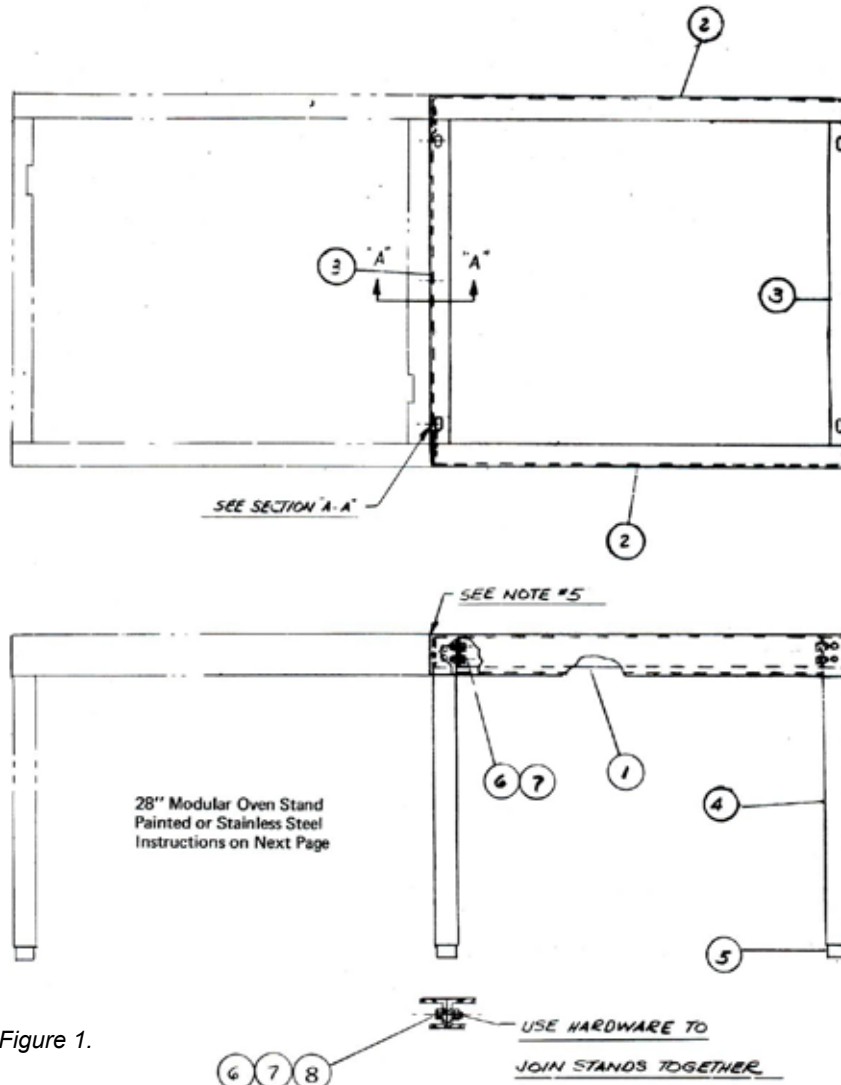
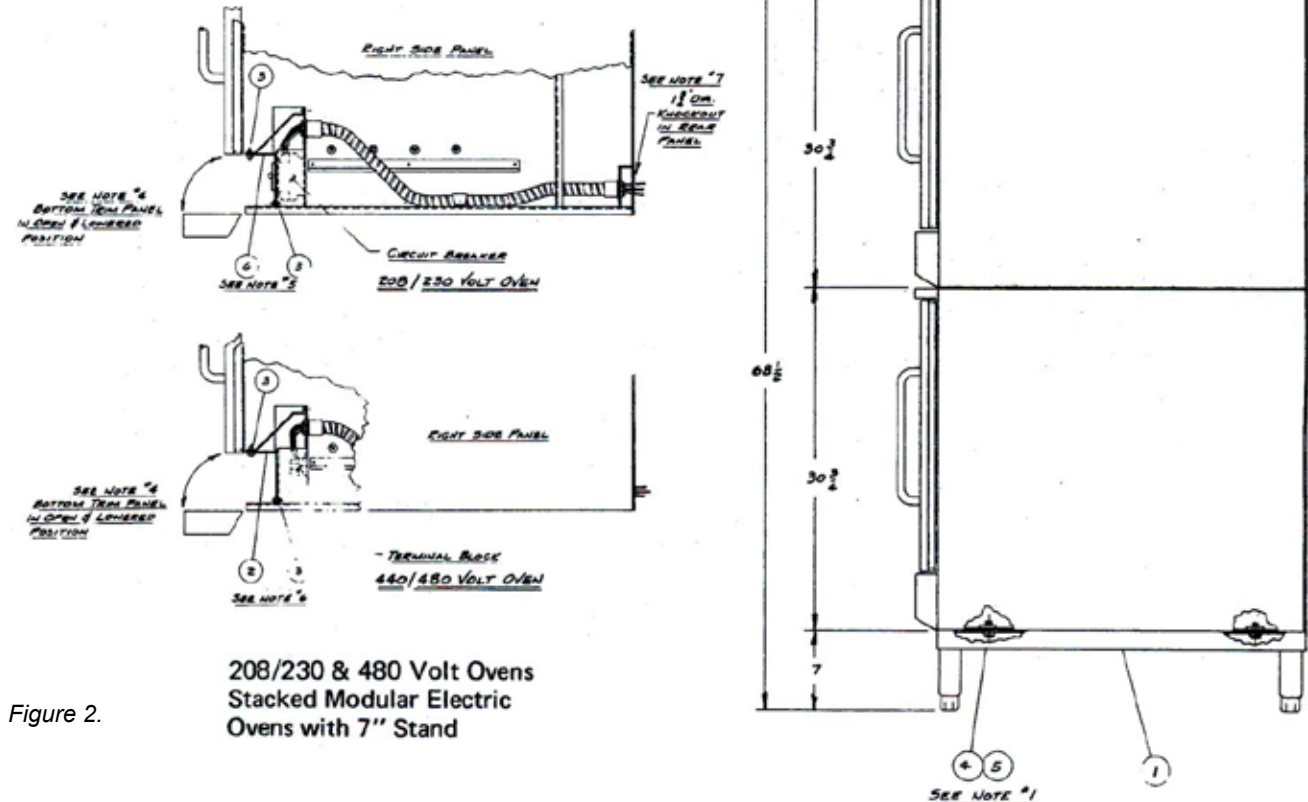
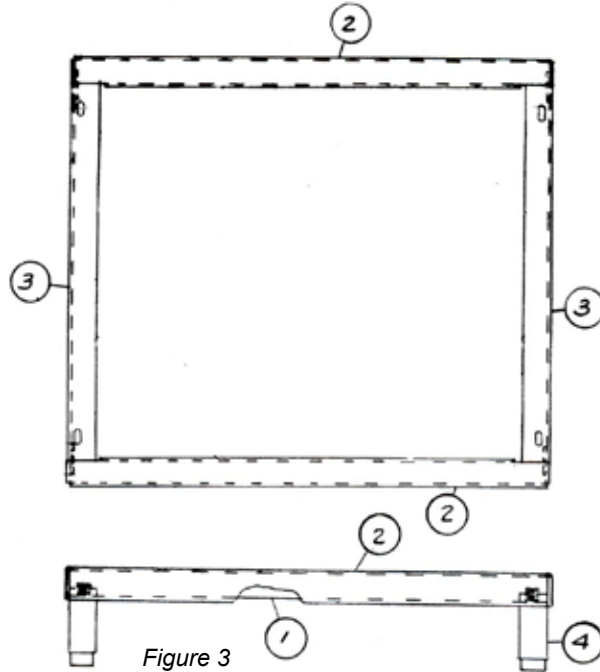
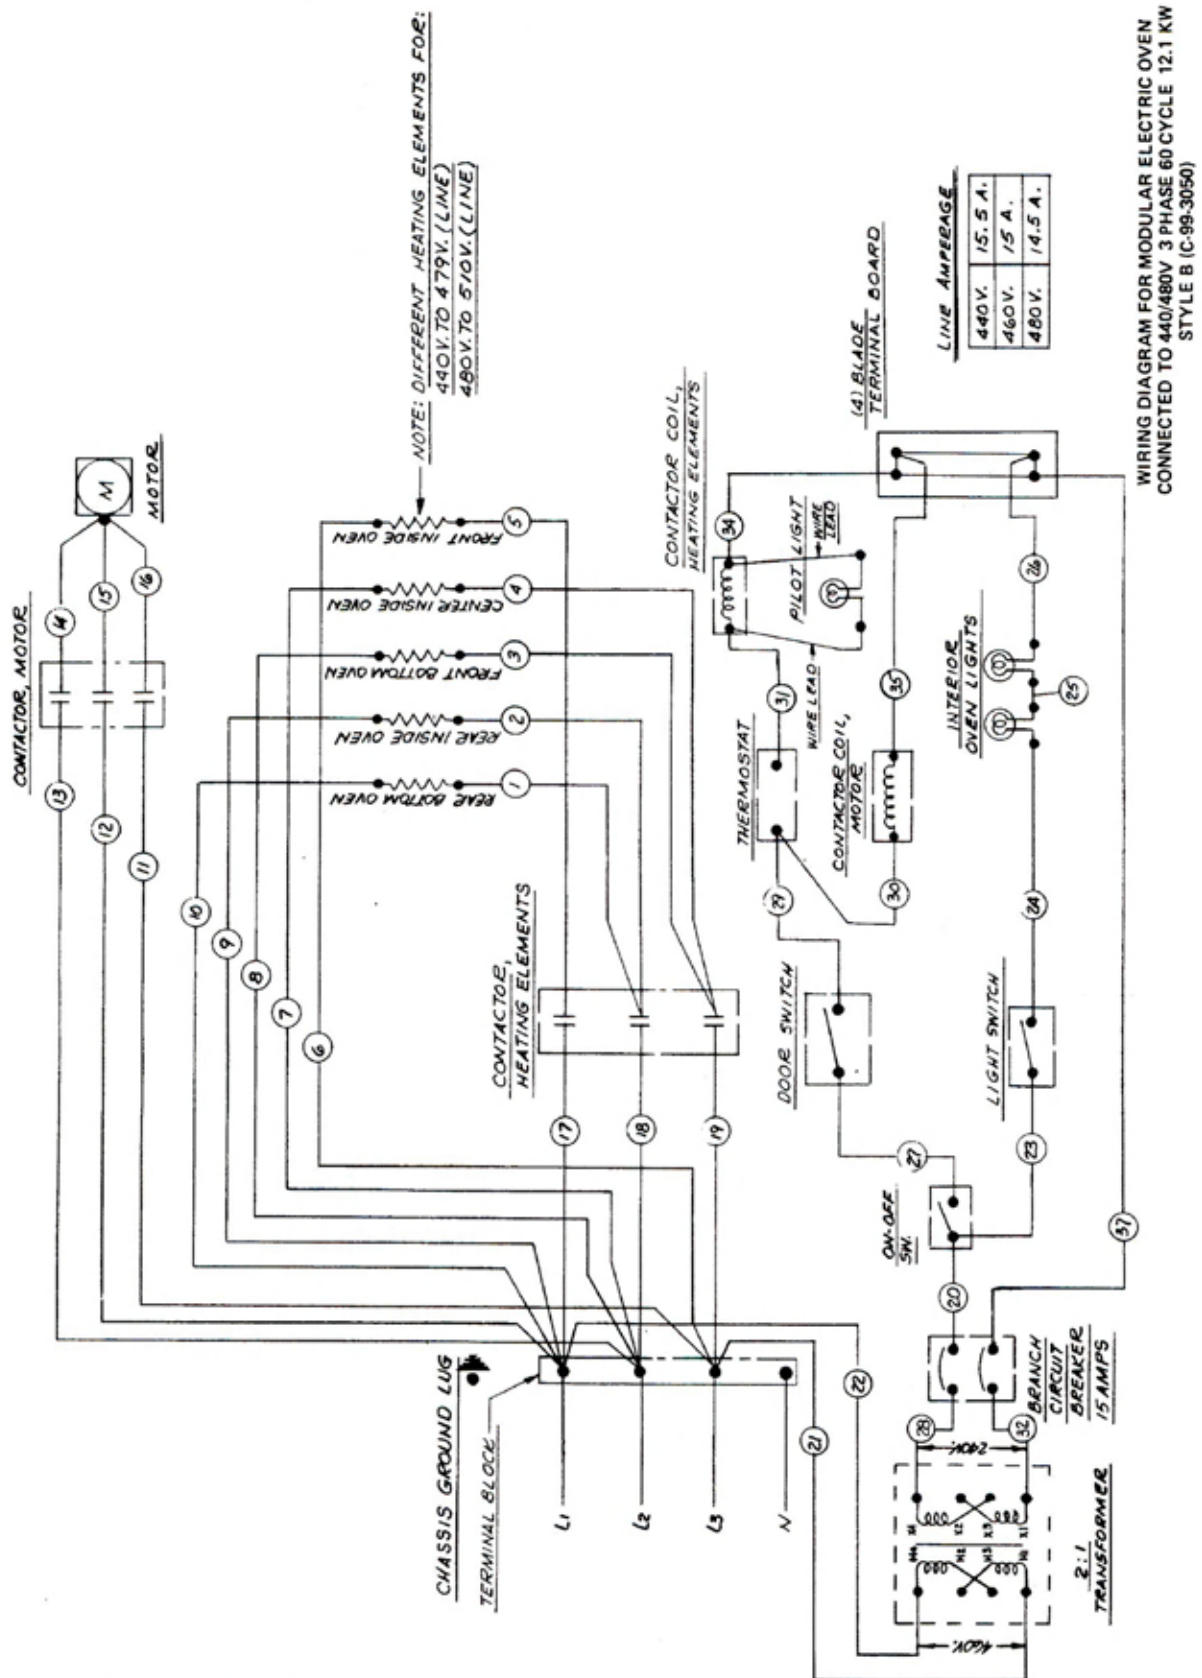

Figure 1.
Figure 2.
Figure 3
Figure 2W
1. For single oven installation on 28" stand use figure 1 for stand assembly. For stacked ovens installed on a 7" stand see figure 2 for stacking instructions and figure 3 for stand assembly.
5. The electrical supply connection to the 208-230V oven is made to the circuit breaker located behind the access panel just below the control panel. The electrical supply connection to the 440-480V is made to the terminal strip at the same location. Check that supply voltage is the same as the voltage stamped on the oven rating plate (refer to figure 2). If it is necessary to convert from three phase to single phase power or vice-versa, change internal connections at the terminal block as indicated on the wiring diagrams (refer to figure 2W and 4W).
ASSEMBLY INSTRUCTIONS FOR 28" MODULAR (SINGLE OR MULTIPLE) OVENS STAND: (Figure 1)
ASSEMBLY INSTRUCTIONS (208/230V & 440/480V) STACKED OVENS WITH 7" STAND: (Figure 2)
3. Pull bottom trim panel forward to release from spring catches and lower to full open position as shown in figure 2 above.
ASSEMBLY INSTRUCTIONS 7" STAND FOR MODULAR STACKED OVENS: (Figure 3)